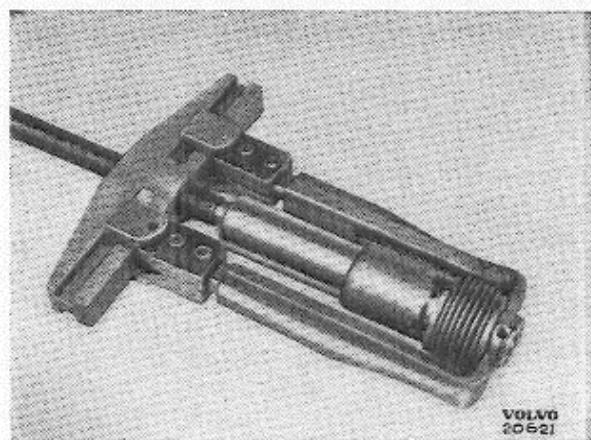

Fig. 58.
- Fit the Bendix spring and holder on the Bendix device shaft and depress the spring with the aid of the puller and tubular driver, until the aperture is free, see Fig. 58. Fit the lock ring. The lock ring opening should lie immediately opposite the lock screw aperture.